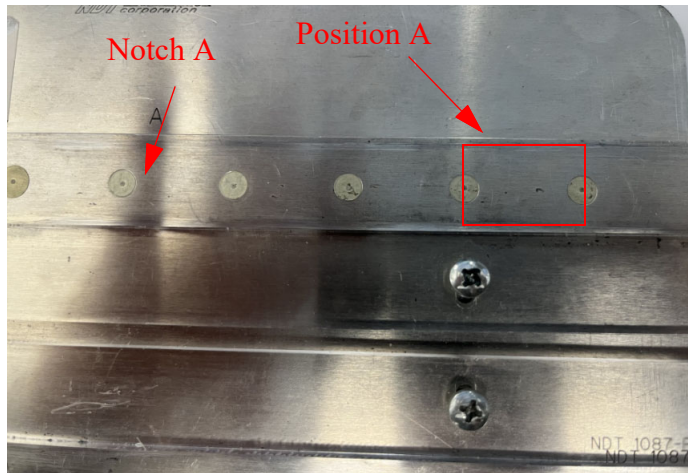

Figure 3-92 Position the Probe
3. Position the probe between the two end rivets at **Position A** in the reference standard and press **Null** (See Figure 3-92 on page 111).
- Return the probe to **Position A** and press **Null** (See Figure 3-92 on page 111).